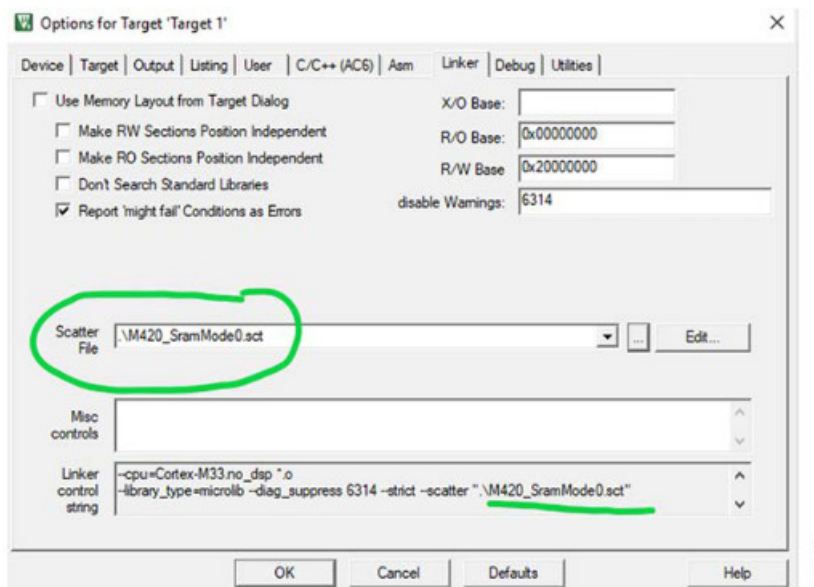

Figure 37. Keil SRAM Output Mode 0
- After following Step 1 and Step 2, proceed to set up the .sct file located in Flash > Configure Flash Tools > Linker. Refer to Figure 37 to check the settings highlighted in green are correct and that the correct scatter file is chosen (based on the SRAM mode configuration).